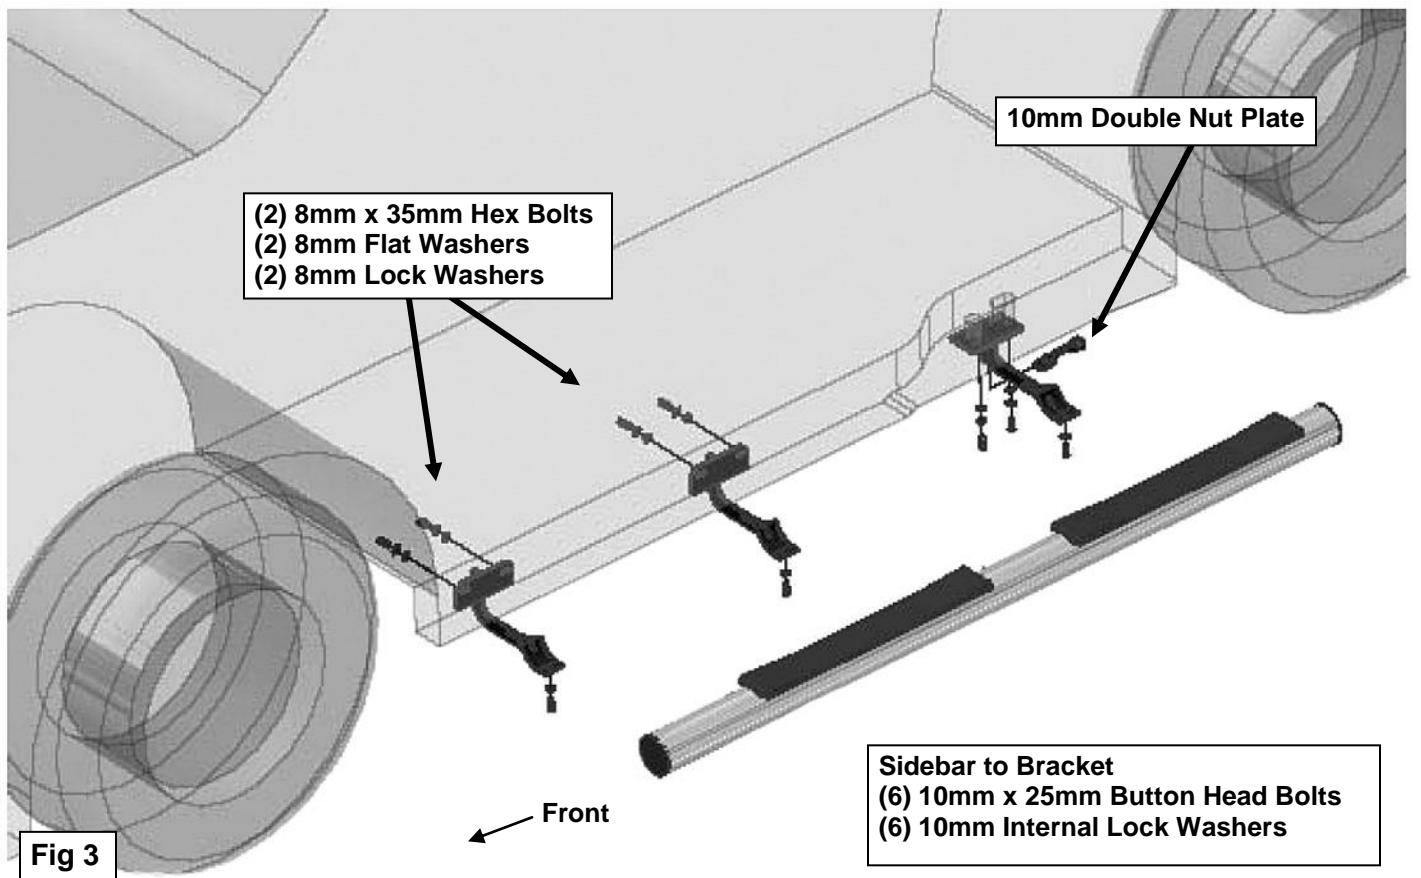

Fig 3
- Repeat Step 2 for driver side Center Bracket installation, **(Figure 3)**.
- Carefully position the driver Sidebar onto the Mounting Brackets and secure using (6) 10mm x 25mm Button Head Bolts and (6) 10mm Internal Lock Washers, **(Figure 3)**. Snug but do not tighten hardware at this time.